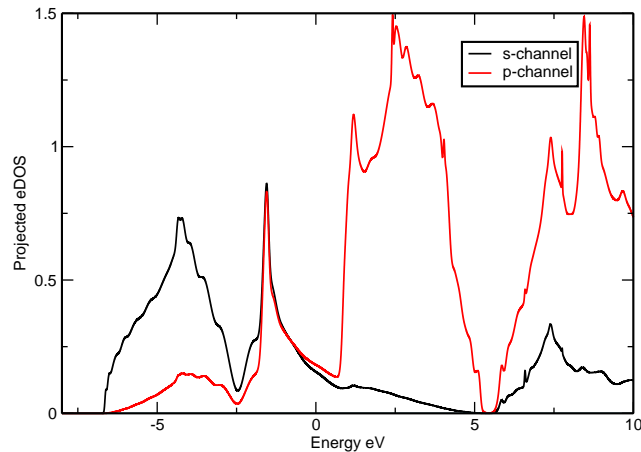

Figure 4.2: Density of States of Silicon generated by adaptive broadening projected onto LCAO momentum states.
6. Setting `DOS_SPACING` : 0.001 gives a high quality plot, as shown in Fig 4.2